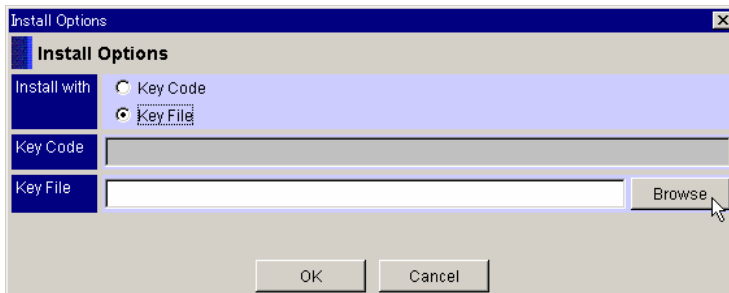

Figure 4.30 Install Options Dialog Box
2. Click **Install** to display the **Install Options** dialog box (see Figure 4.30).